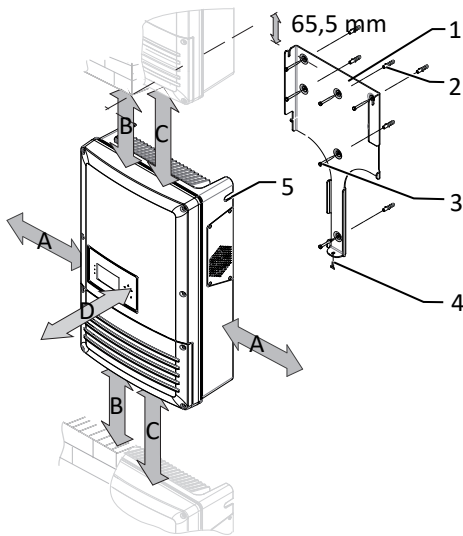

Fig. 12: Minimum clearances for wall mounting
3. Insert the screw provided into the lug of the mount and secure the device to prevent it from being lifted off  Z2 (Pozidrive) /  1 Nm] [See figure 12 [▶ Page 18].